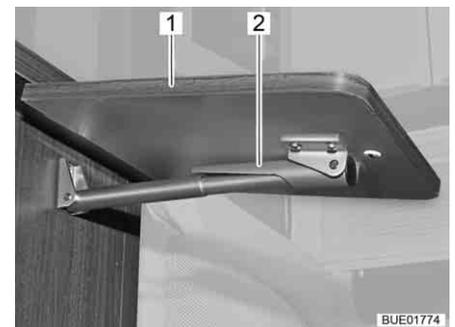

Fig. 131 Folding worktop, unlocked
- Slightly lift the folding worktop (Fig. 131,1). With your other hand, push the fixture (Fig. 131,2) on the telescopic holder upwards.